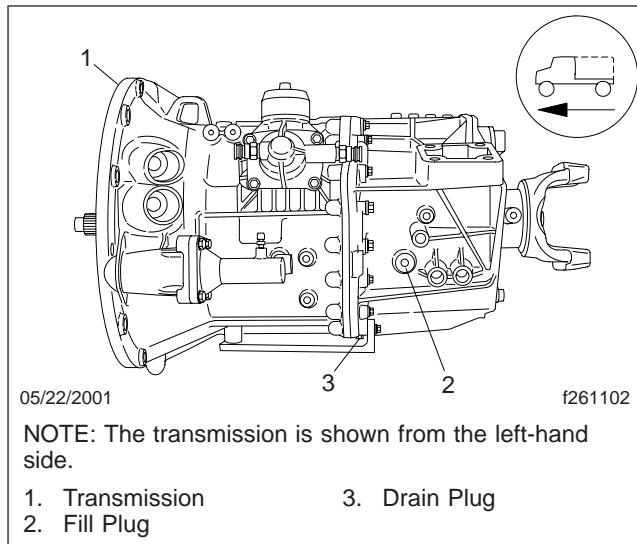

Fig. 1, Transmission Drain and Fill Plugs
2. Drain the transmission fluid. See Fig. 1 for the location of the drain plug.